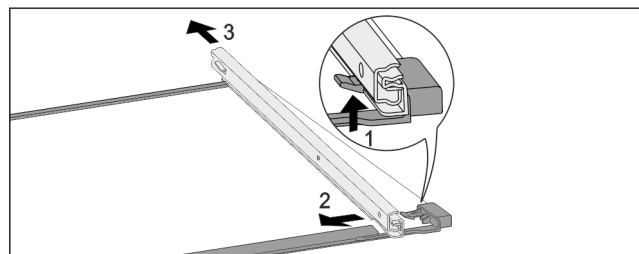

Fig. 195 Glass shelf with rails
- Push up front click-in hooks. Fig. 195 (1)
- Slide pull-out rails to the side *Fig. 195 (2)* and backwards *Fig. 195 (3)*.